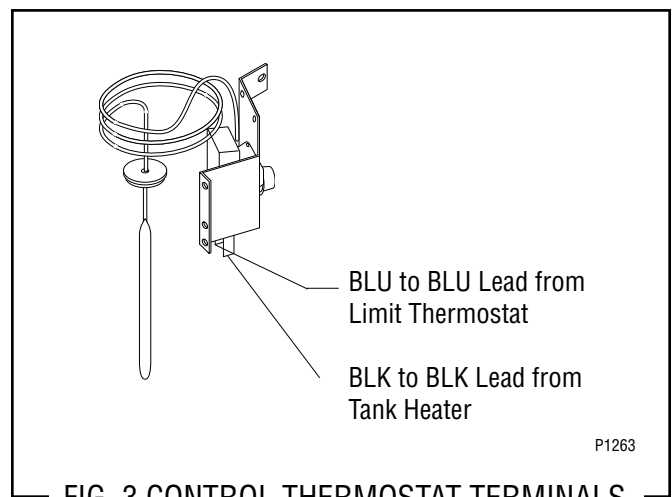

FIG. 3 CONTROL THERMOSTAT TERMINALS
8. Refer to Fig. 3 when reconnecting the wires.